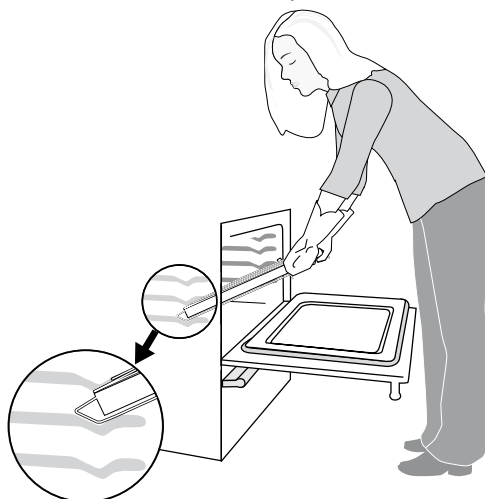

Figure 3 - Removing and replacing the oven glide rack.
3. Using both hands, grasp the upper and lower portions of the glide rack (see figure 3).
1. Grasp both upper and lower portions of the glide rack (see figure 3).